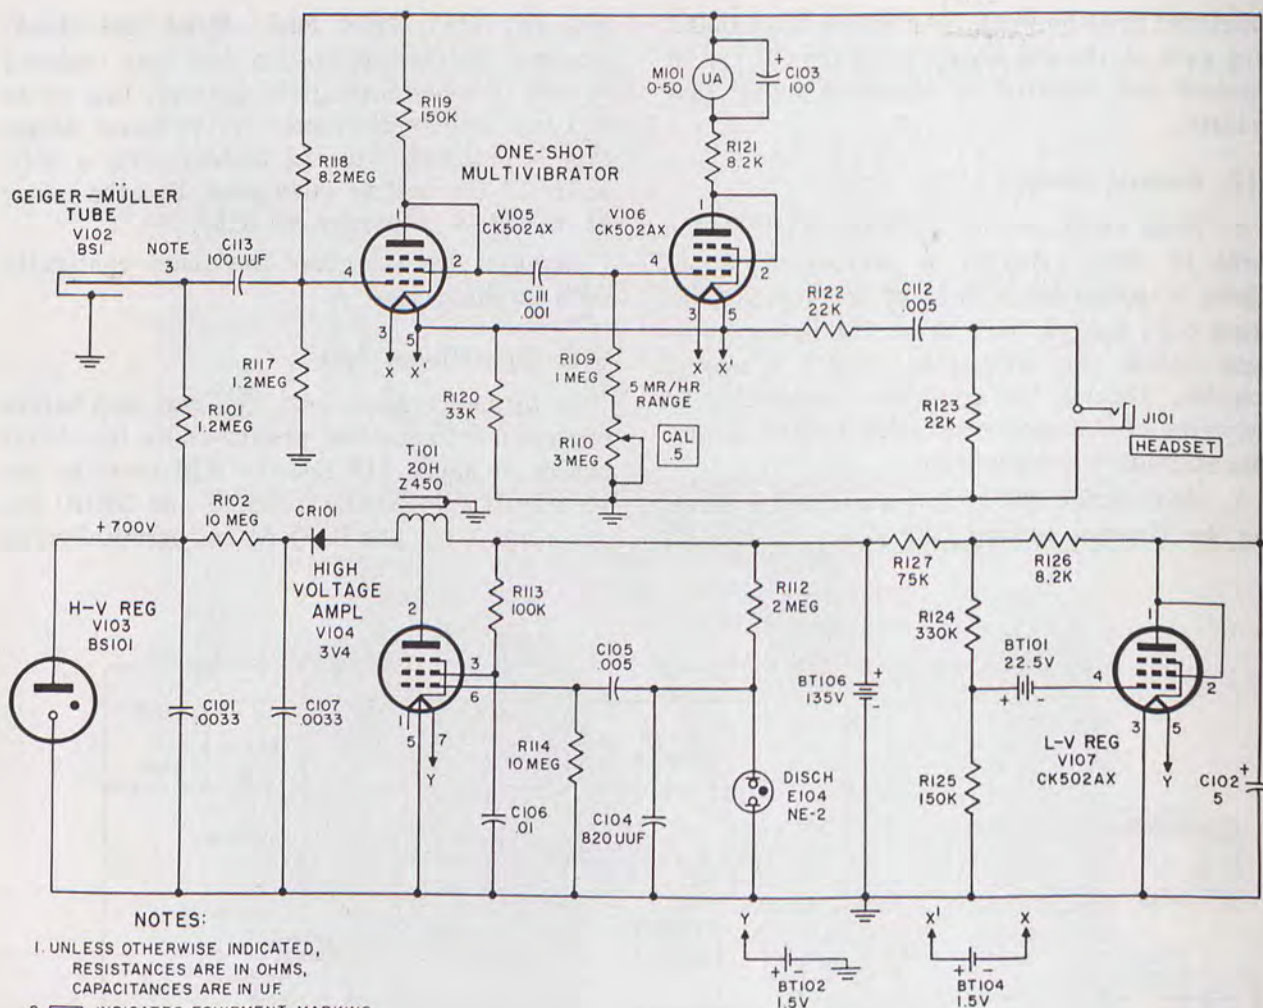

Figure 113. Radiac set with Geiger-Muller tube, simplified schematic diagram.
104, fig. 113) under load. Make this check, whether the filament battery has been replaced or not. Besides testing the battery, this check is a fast test for the meter. If no meter deflection is obtained, test the battery with a voltmeter, if the battery tests good, test the meter as described in paragraph 315f.
figure 113 check BT101 and BT102. BT2 and BT104 were checked during the filament battery test. If the trouble still persists with good batteries in the radiac set, determine whether the detecting element or the remainder of the circuit is at fault as described in paragraph 319.
b. After the battery and meter checks have been completed, continue trouble shooting by checking the high-voltage circuit, all the tubes including the G-M tube, and by measuring the voltages and resistances of the whole set (fig. 113).
- (1) A high-voltage circuit of the type shown can be checked with an oscilloscope. The wave shapes are found in the technical manual covering the radiac set. Occasionally good tubes placed in such circuits will not operate properly. If all component parts test good but the high-voltage output is still too low, replace the high-voltage amplifier tube V104.
- (2) Test the Geiger-Muller tubes and all the remaining vacuum tubes on the appropriate tube test sets. If all tubes check good, perform voltage and resistance measurements on the set. Abide by all cautions listed in the manual accompanying the radiac set to avoid damaging the meter.
- (3) If a test signal check is desired for troubleshooting or calibration purposes, use a pulse generator and proceed as follows: Disable the high-voltage circuit by removing the high-voltage batteries, or as in the sample circuit (fig. 113) the high-voltage amplifier (V104). Adjust the pulse generator repetition rate, pulse width, and amplitude to the values specified in the radiac set repair literature. Apply the pulse generator output to the grid coupling capacitor (C113) of the input stage (V105).